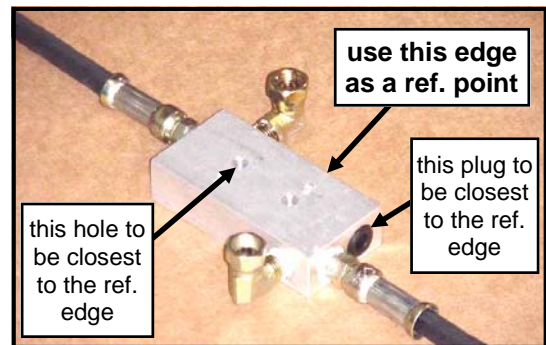

Fig. 4.1—Crossover Relief Valve Assembly
**4.1** **NOTE: orientation is critical. Study figures 4.1 and 4.2.** Apply thread sealer to the male threaded ends of two NPT 1/4" male x 1/4" female 90° swivel elbows. Thread the elbows in where shown and tighten fully so that the swivel ends point straight up as shown. Apply thread sealer to the two NPT 1/4" male x 17" long high pressure hoses. Thread the two hoses into the end ports as shown and tighten fully.